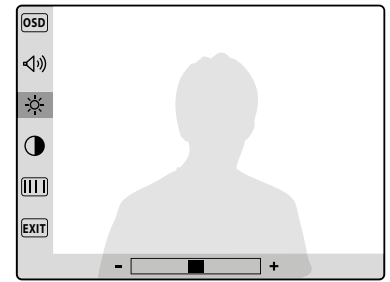

Fig. 3A
- The picture brightness (8 levels Fig.3a);